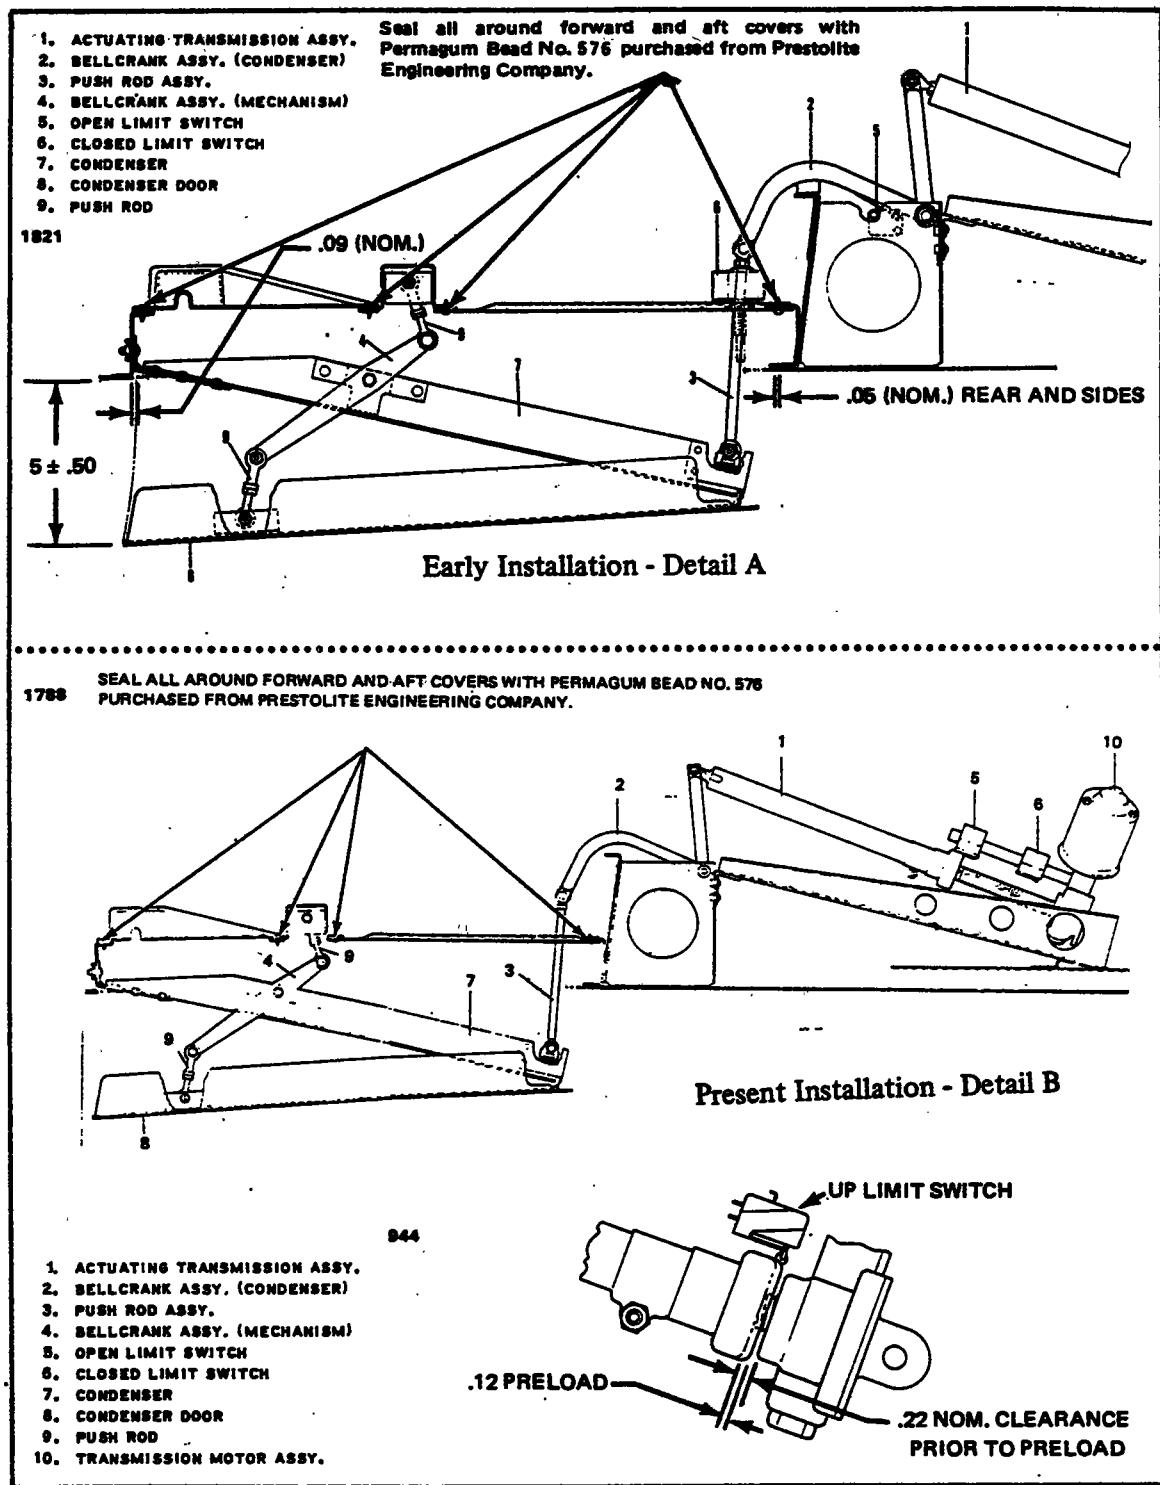

Figure 14-12. Condenser Air Scoop Installation
- b. Place the condenser and frame assembly to the fuselage frame mounting bracket and insert the (8) screws into the piano hinge.
- f. Seal all around forward cover panel (and aft cover panel if removed) with Permagum Bead No. 576 purchased from Prestolite Engineering Company. (See Figure 14-12.)
14-34. CONDENSER DOOR ACTUATOR. The actuator is on a bracket mounted between two bulkheads in the tail cone. It is coupled to the condenser assembly through a bellcrank mounted to a bracket on the bulkhead aft of the condenser. The actuator travel is controlled by two limit switches. On early installations the down switch is located on the inboard bellcrank support and the up switch on the condenser frame. On later installations both the up and down switches are located on the actuator. Refer to Figure 14-12 for the switch locations of the particular installation.
14-35. CONDENSER ASSEMBLY RIGGING INSTRUCTIONS. (Refer to Figure 14-12.)
There are two installations of this system. The first or early installation had the limit switches located as shown in Figure 14-12, Detail A. The second or present installation has the limit switches located as shown in Figure 14-12, Detail B. The instructions covering the adjustment of the limit switches will be covered in separate steps.
Early Installations: (Refer to Figure 14-12, Detail A.)
Present Installations: (Refer to Figure 14-12, Detail B.)
- a. Adjust open limit switch (5) to open the condenser door (8) $5.00 + .50$ inches when measured from the leading edge of the door to the fuselage skin.
- b. Adjust the push rods (9) so that a vertically measured gap of .16 of an inch exists along the trailing edge of the door at the instant the forward edge of the door becomes flush with the fuselage skin.
- c. With the door fully closed adjust the "CLOSED" (6) limit switch so that the actuator (1) travels an additional .12 of an inch after the door is fully closed, this is necessary to preload the mechanism. Refer to Figure 14-12, Detail B - View AA.